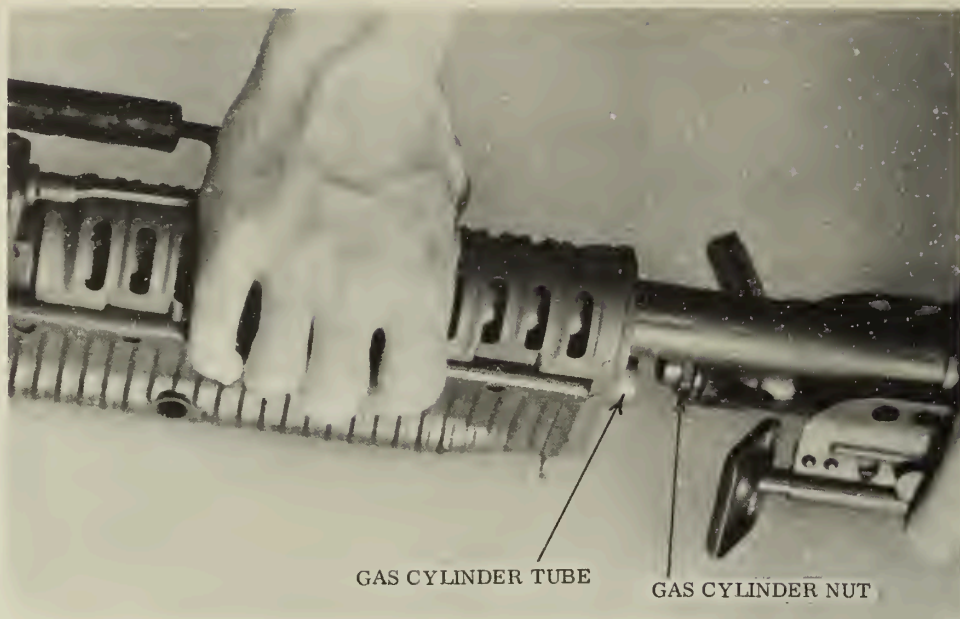

Figure 16. --Replacing the Barrel Group.
(1) Raise the barrel locking lever.
(2) Insert the rear of the barrel beneath the barrel cover, ensuring that the gas cylinder nut is aligned with the gas cylinder tube. Push the barrel into the receiver until it is fully seated. (See fig. 16.)